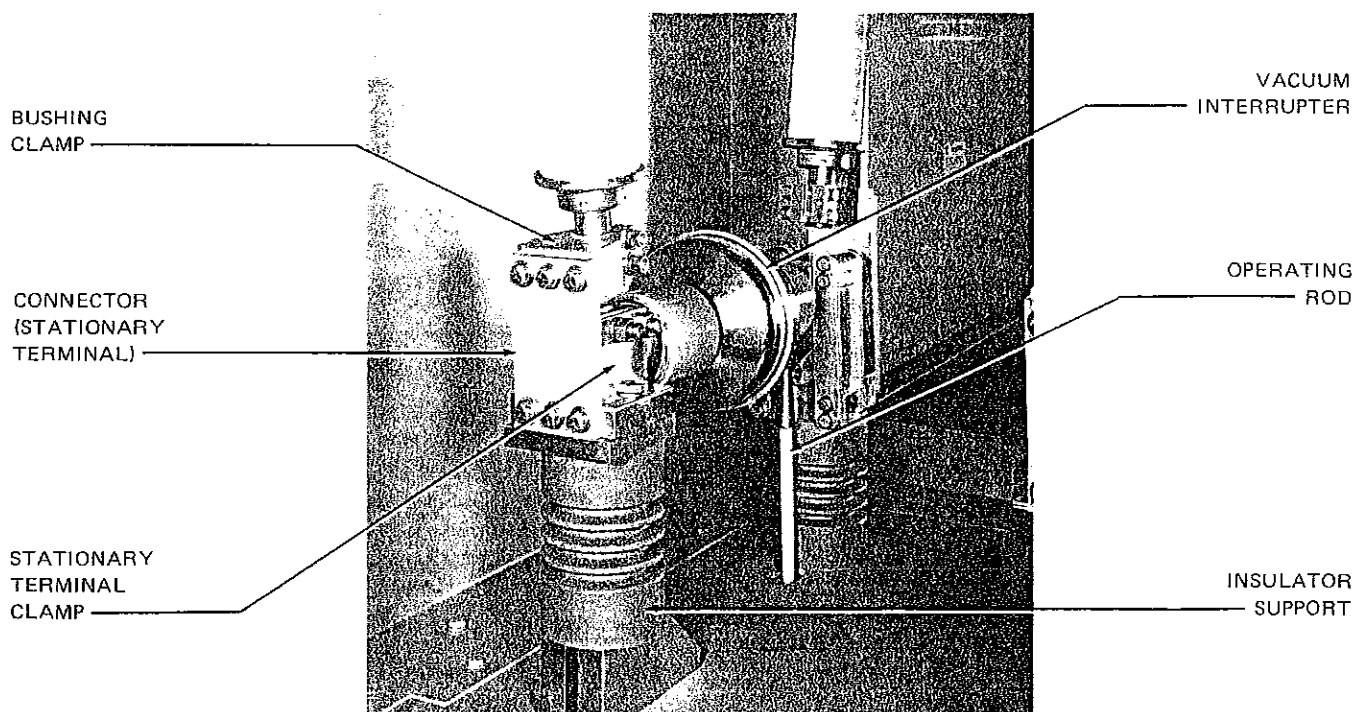
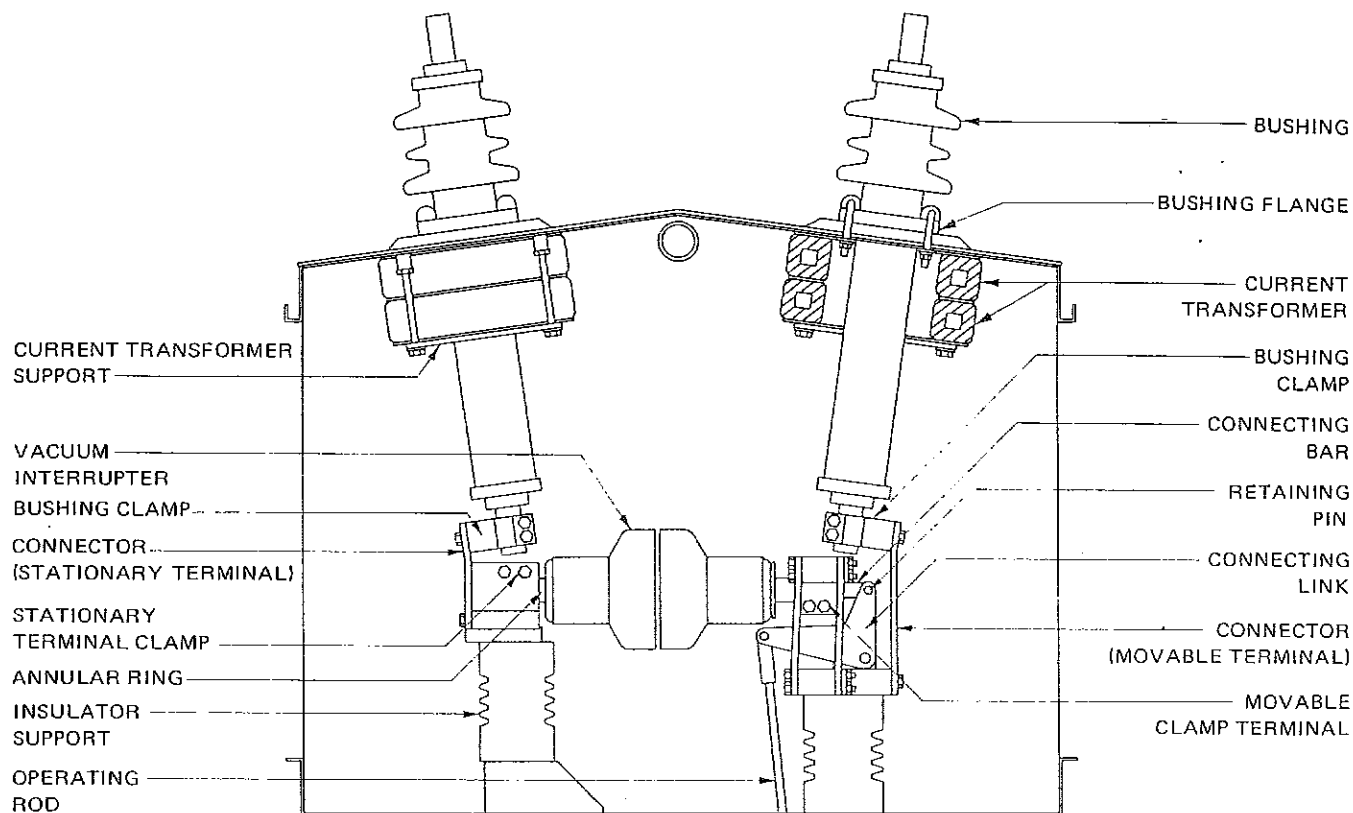

Figure 14
Figure 12
- A. At the stationary terminal, Figure 12, loosen the bolts and remove the connector between the bushing clamp and the terminal assembly (also see Figures 14 and 16).
- D. Loosen two movable terminal clamping bolts, Figure 12.
3. Referring to Figure 12, loosen bolts and remove the connector between the bushing clamp and the terminal assembly.
5. Remove bolts holding current transformer in place and carefully lower support and current transformer(s) (Figure 12).